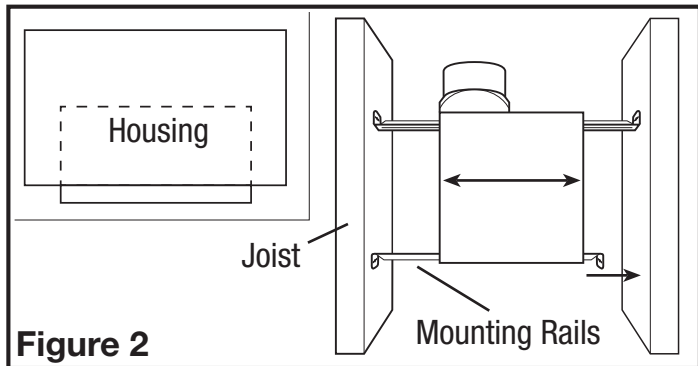
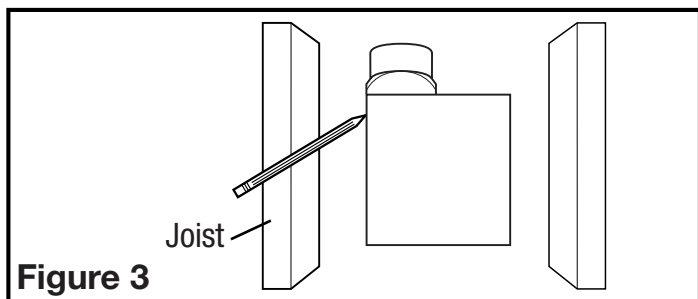

Figure 2
Figure 3
1. Install the rails into the mounting channel on the housing. Center the mounting channel in the slots on the housing, then from inside the housing tighten the mounting channel screws so the channel is securely in place. Position the housing next to the joist. Line up housing so that it will be flush with the finished ceiling. Secure the ends of the rails with screws or nails (not included) to the joists and slide the housing into the final position (Figure 2).
1. Set housing in position between the joist and trace an outline onto the ceiling material (Figure 3). Set housing aside and cut opening, being careful not to cut or damage any electrical or other hidden utilities. Install the rails into the mounting channel on the housing. Center the mounting channel in the slots on the housing, then from inside the housing tighten the mounting channel screws so the channel is securely in place. Position the housing in the previously cut hole so that it is flush with the finished ceiling. Secure the ends of the rails to the joists (Figure 2).